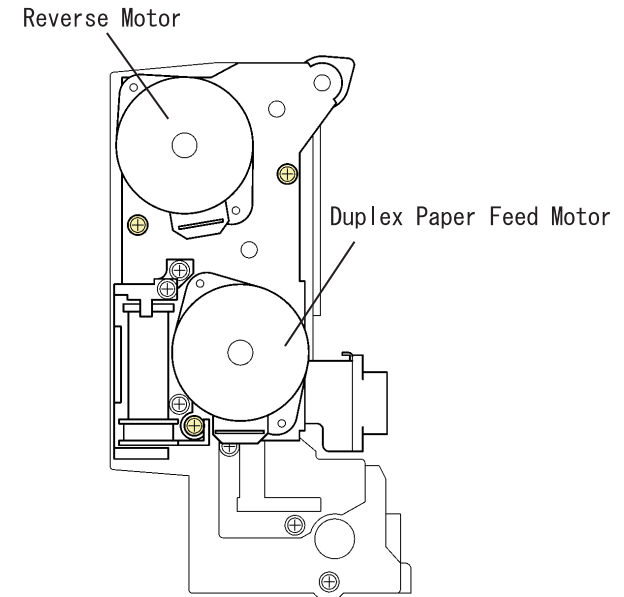

Figure 4-71. Reverse Motor / Duplex Paper Load Motor
3. Remove 2 screws securing the Duplex Paper Load Motor. (See Figure 4-71. "Reverse Motor / Duplex Paper Load Motor" on page -178.)